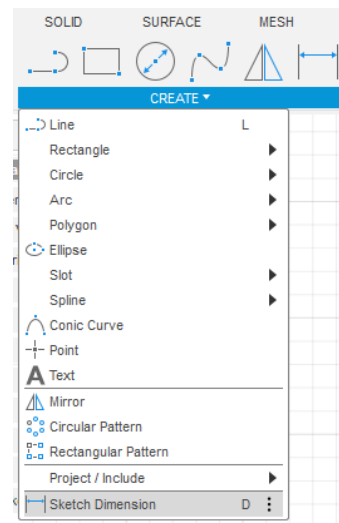
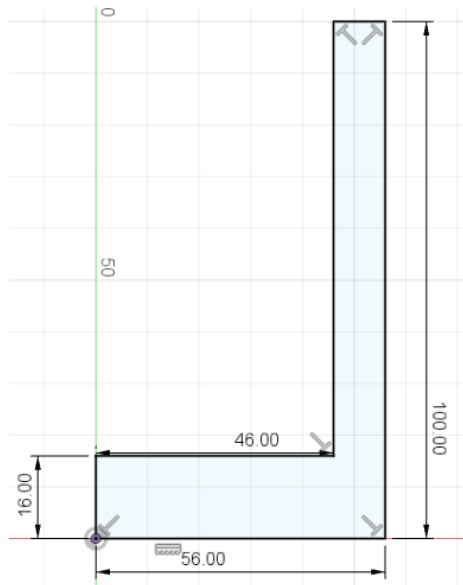

Fig. 3: Sketch dimension
Fig. 4: Dimension of the base
3. Go to “CREATE” and select “Sketch Dimension” as shown in the Fig. 3 to set the dimension accordingly as shown in Fig 4.